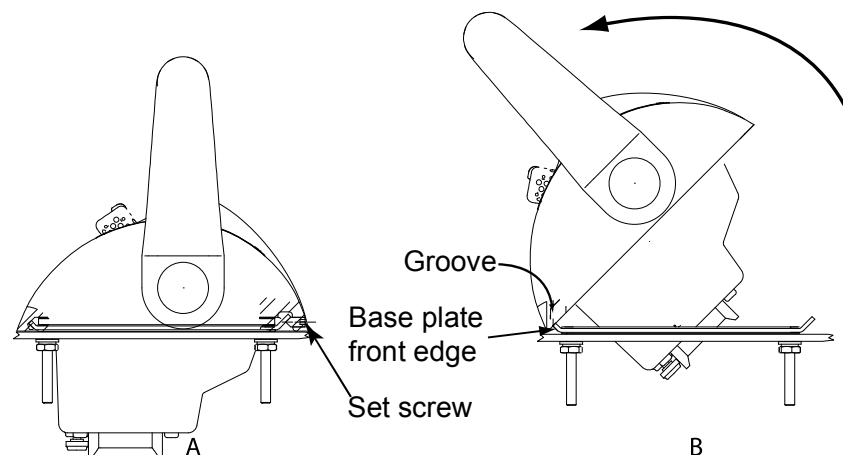

Figure 9. Control Head Removal
1. Remove the control head from the cutout by loosening the set screw in the rear, as shown in Figure 9 \(A\), until the control head can be rotated to release it from the base plate front edge.